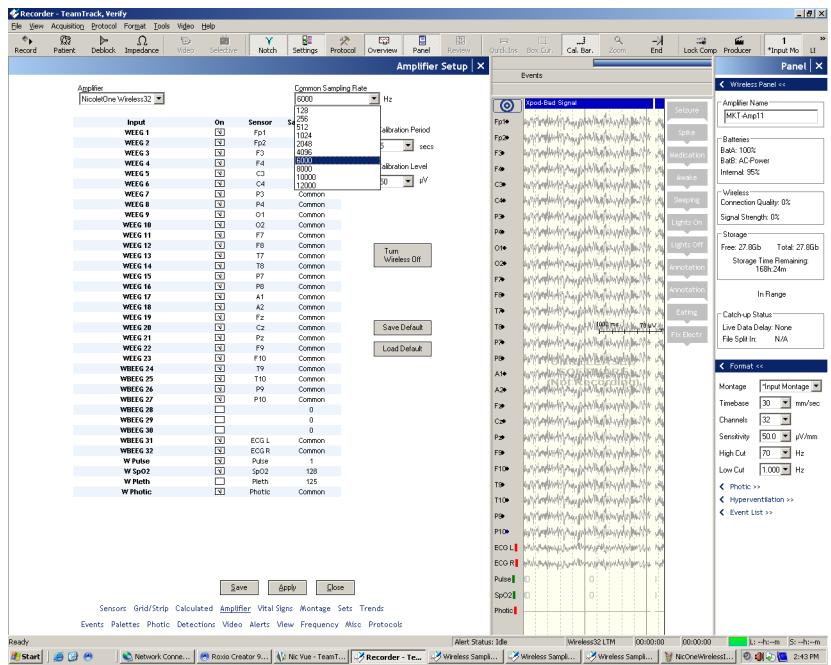

Figure 1.
2. Select your sampling frequency from the "Common Sampling Rate" menu (Figure 1). You can select specific sampling frequencies between 128 Hz to 12000 Hz.